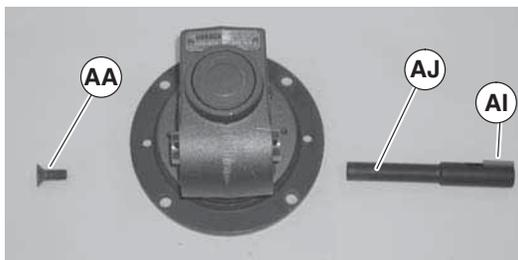

Figure 21
- Remove two (2) screws (AG) and detach output shaft cover (AH).
- Remove M10 shaft locking screw (Figure 21, item AA), remove gear reducer output shaft (AJ) and key (AI).
Output shaft (Figure 21, item AJ) is held in Gear Reducer with a tapered press fit. Removal may require use of an arbor press.
- Insert the new shaft with key (Figure 21, item AI) into new gear reducer. Tighten M10 shaft locking screw (AK) to 300 in-lbs (34 N-m).